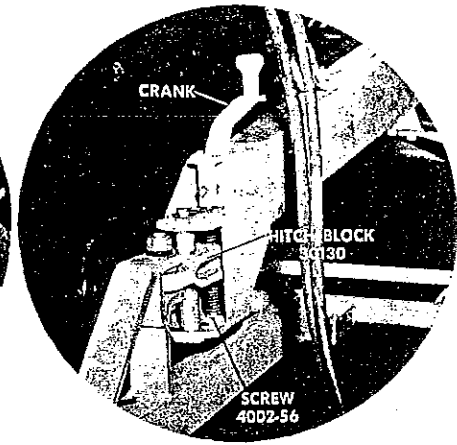

Figure 20
**PROPER DIRT LOAD.** Setting the cutting blade too deep wastes power and prevents your leveler from doing its best job. Too deep a setting kills the automatic action so the blade neither cuts the ridges nor unloads in low spots properly. It should run full only on high places. It should run empty part of the time when crossing low areas. (This is especially true on the first time over.) Adjust the depth in the field by raising or lowering with hitch screw (Figure 20) on the front truss so that the blade will average about half full and note setting on the gauge. Watch the dirt load for a round or two and lower the hitch setting only if it runs empty half of the time or better. The second and third times over a more even load will be carried.
The front of the machine can be raised or lowered a total of 4 inches by means of the hitch screw crank. (Figure 20) *This adjustment controls the amount of dirt you carry in the cutting blade.*
2. Set the ball hitch block near the center of the screw (Figure 20) to start. (Always raise the machine with the cylinder, enough to take the weight off the front clevis before cranking the screw.)